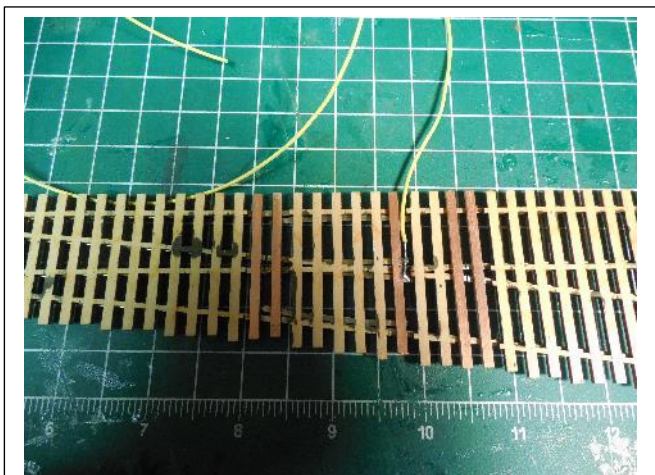

Fig 24 – Feed wire soldered to underside of frog
12. Wiring Frog. Turn turnout over and solder a wire on Frog for polarity control from switch motor (fig 24).